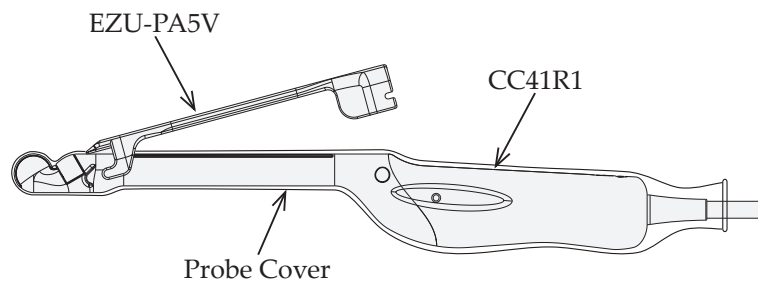
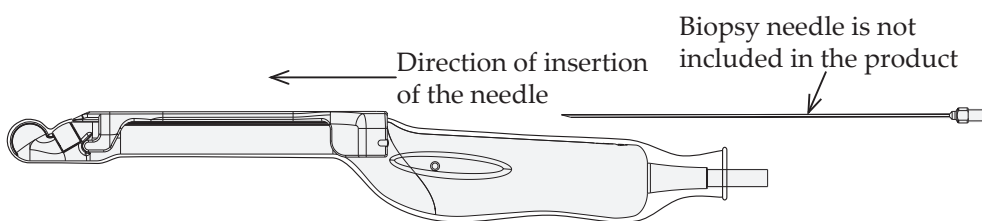

Figure 5 How to attach Sterile Puncture Adapter
Figure 6 Needle insertion direction
- (1) Mount a probe cover on the probe as stated in the section 4-3.
- (2) Put the picks of the sterile puncture adapter to the grooves on the tip of the probe (Figure 5).
- (3) Push the other end of the sterile puncture adapter until fix the dents of the sterile puncture adapter to the projection on the probe.
- (4) Display the puncture guideline before inserting the needle into the puncture adapter. Refer to the section 4-5 for the guideline. The needle insertion direction is shown in Figure 6.